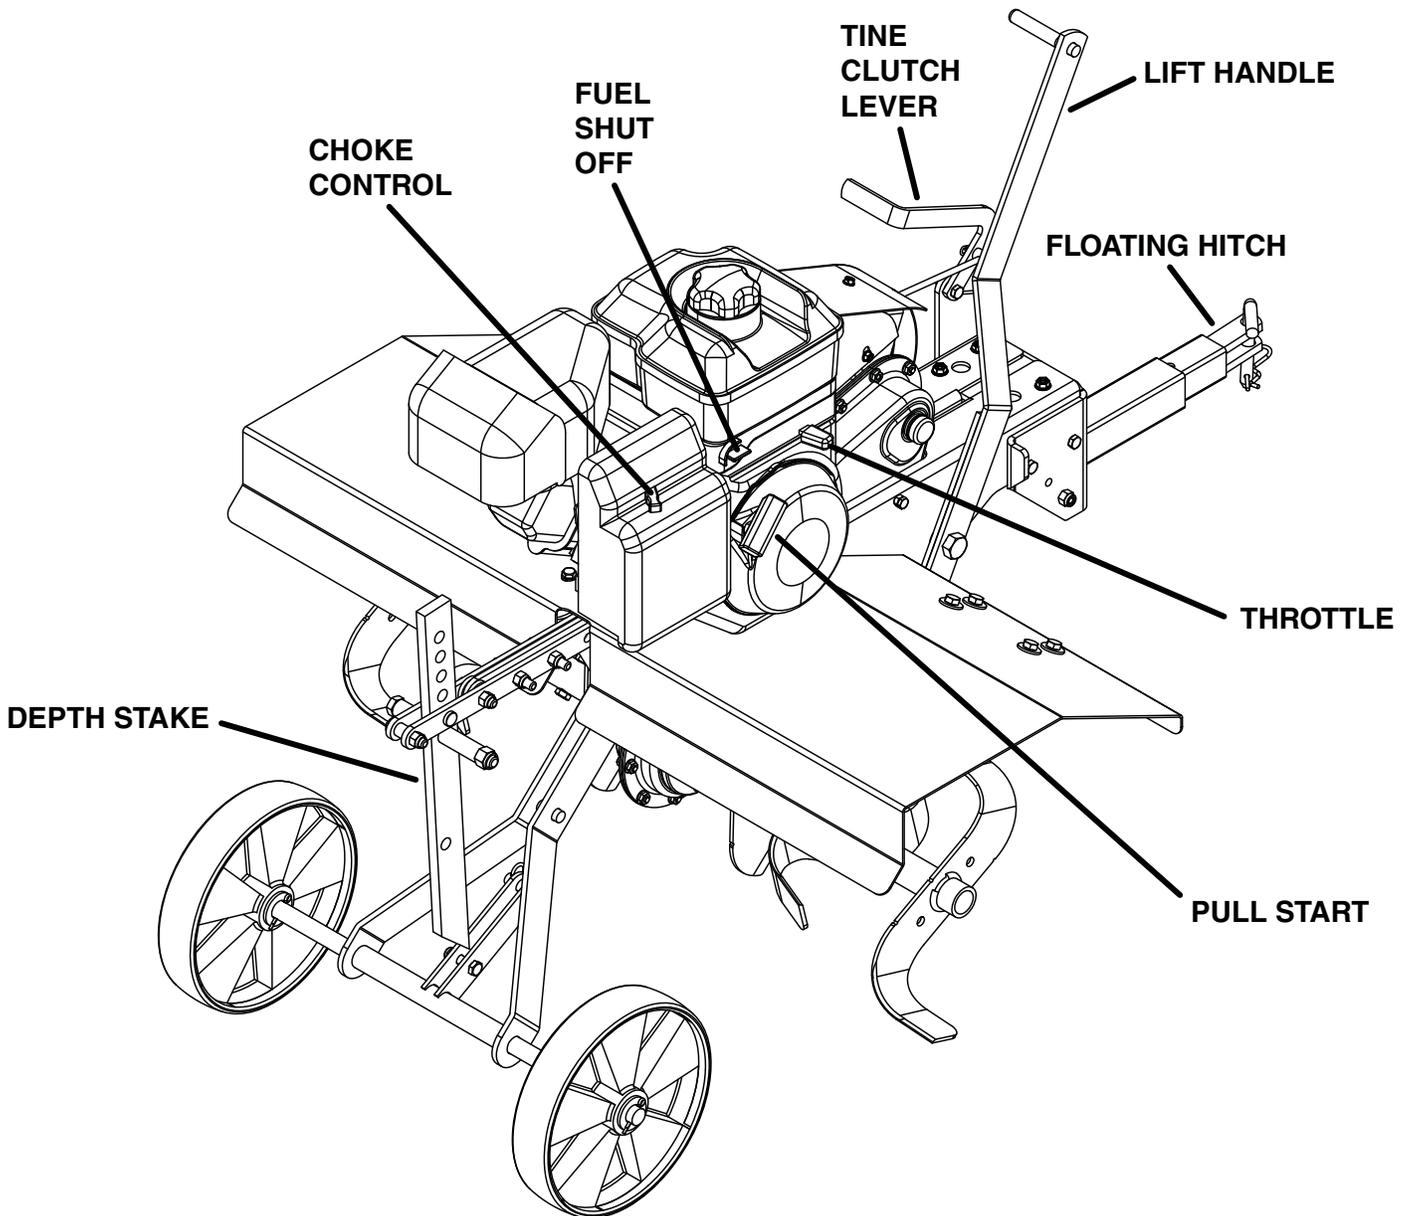

Figure 2
It may be helpful to familiarize yourself with the Controls and Features on your new machine by reviewing *Figure 2* before beginning the steps outlined in this chapter. For technical assistance, please visit our website at www.DRpower.com.
NOTE: The model shown in *Figure 2* may look slightly different from your machine.
3. Pull the Lift Handle Forward to lower the wheels (**Figure 2 on previous page**).
1. To change the till depth, remove the Hair Cotter Pin from the Clevis Pin which is connecting the Depth Stake to the Stake Support Bracket (Figure 2 on page 7).